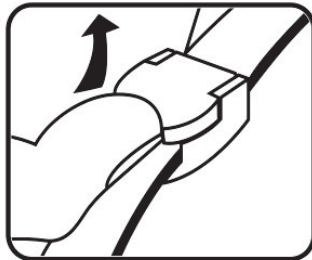

FIGURE 3
1. Open the adjustor cam buckles (**Figure 3**).